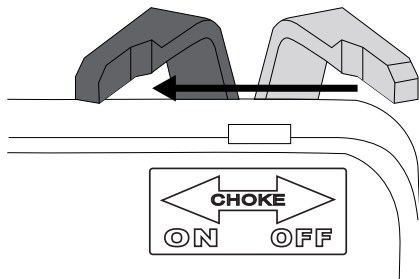

Figure 10 - Cold Start Choke Lever - ON
5. For cold starting move the choke lever to the **ON** position (see Figure 10 below). If warm starting move choke to **OFF** position.